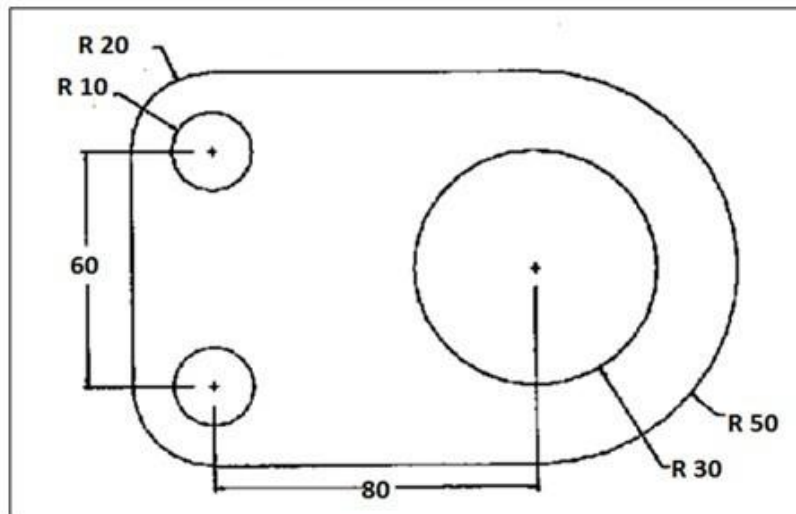

Figure 19
19. Analyse the given bracket (Figure 19) built from a 20 mm thick steel plate for deflection and Stress by treating it as plane stress condition. The material is steel. Take $E=200$ GPa and $\mu=0.25$